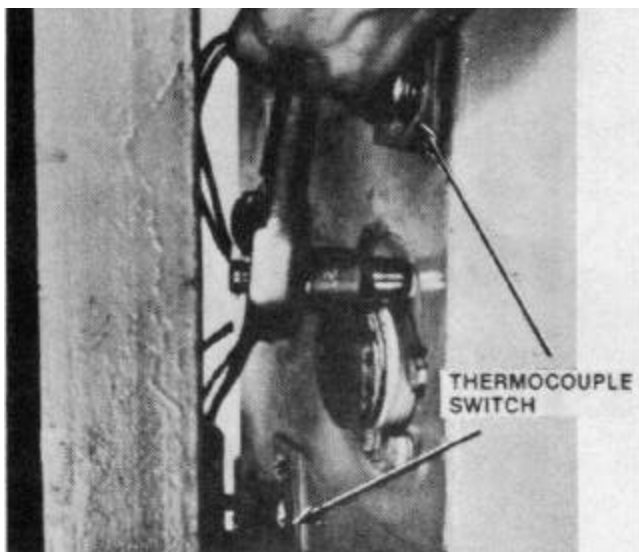

Figure 5-133
5. Remove (6) 1/4-20 x 1/2" long screws from the suction baffle using a 7/16 inch socket wrench (Fig. 5-133).
12. Install the (6) mounting screws (Fig. 5-133).